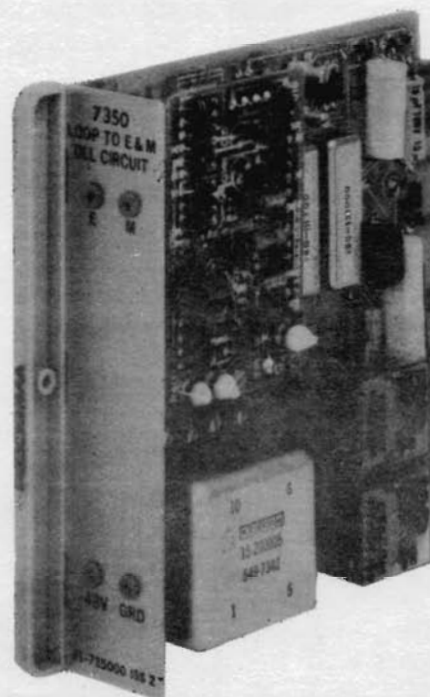

Figure 1. 7350 Loop to E&M DLL Circuit Module
1.01 This Practice provides circuit description, installation procedures, and basic testing information for the Wescom® 7350 Loop to E&M Dial Long Line (DLL) Circuit (shown in Figure 1). This Practice has been reprinted to incorporate an editorial update and to make corrections in the earlier printing. Significant editorial changes are indicated by a change bar (▮) in the margin adjacent to the affected copy.